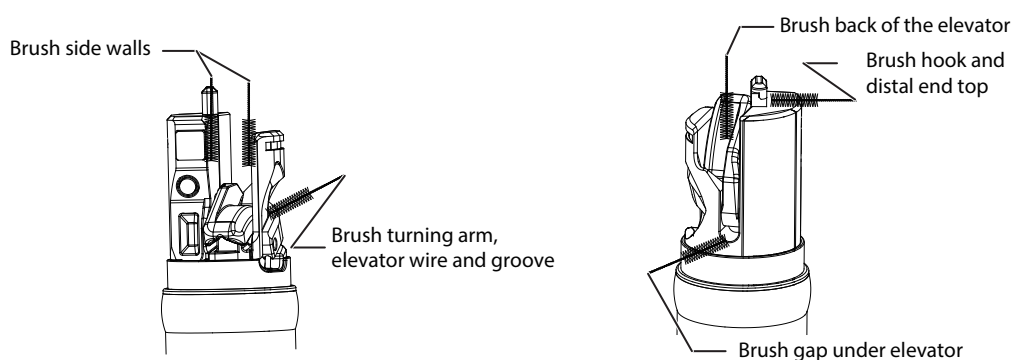

Figure 5-23 Brushing the Distal End 2
- f. Rotate the elevator control knob back and forth to rise or lower the forceps elevator and use the channel-opening cleaning brush to brush all parts of the distal end in accordance with Figure 5-23. Repeat the step at least 3 times to remove all debris.